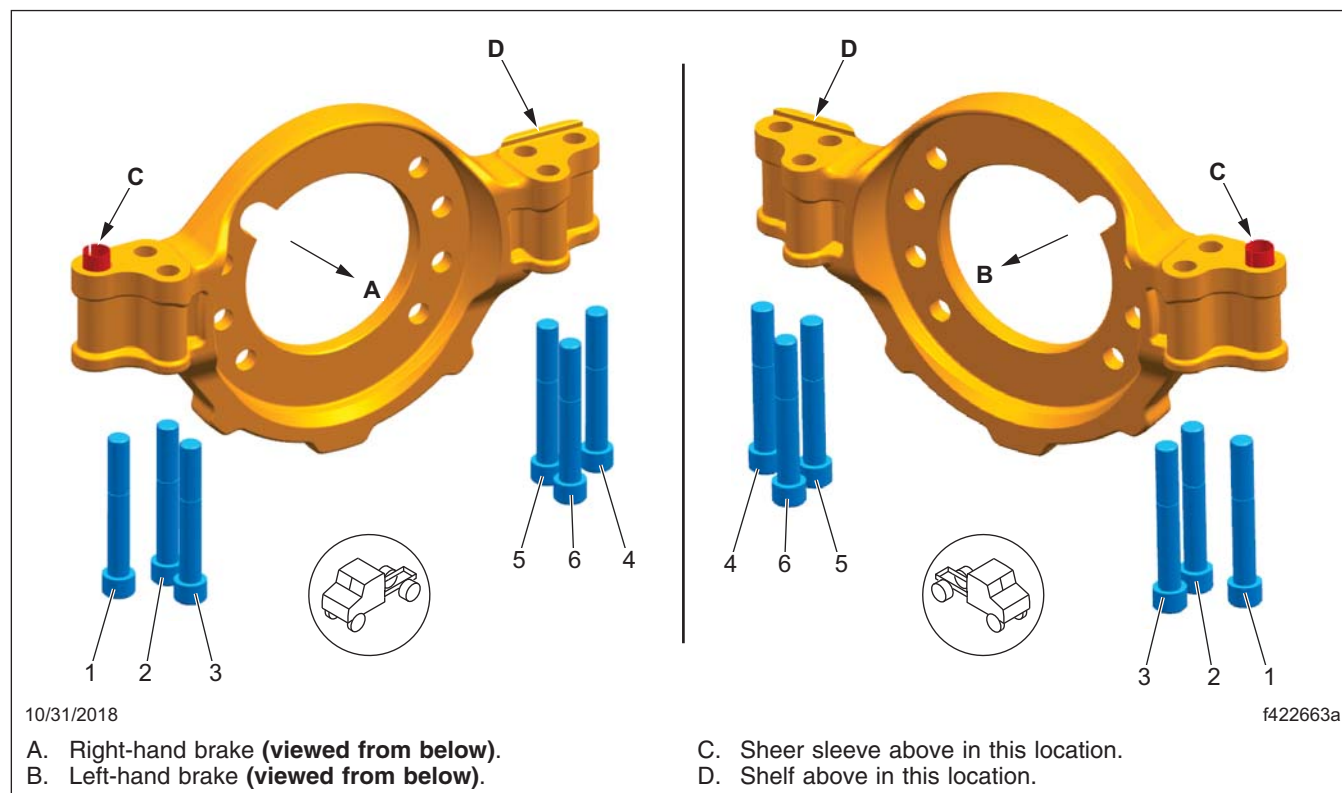

Fig. 12, Bendix Radial Mounted Caliper Tightening Pattern (viewed from below)
4. Set a torque wrench to 200 lbf·ft (271 N·m) and tighten the caliper mounting bolts following the tightening pattern shown in **Fig. 12**. If they do not turn, no further work is needed. If they turn, take the vehicle to an authorized Freightliner dealer to have all of the caliper bolts on that wheel end replaced.